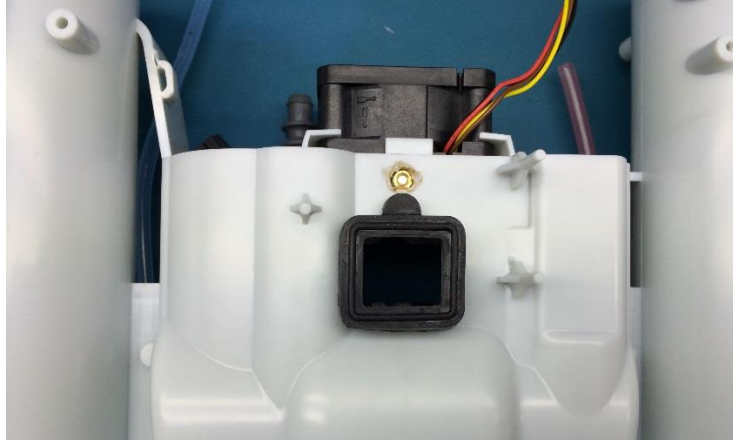

Figure 3: Chassis gasket
7. Remove chassis gasket from back of chassis (Figure 3).
19. Replace chassis gasket on back of chassis (Figure 3).